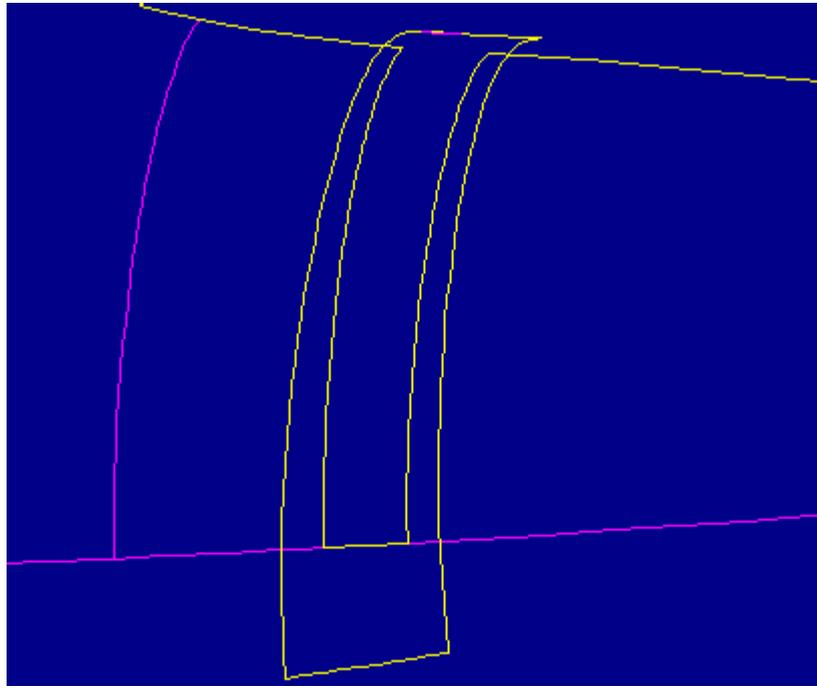

Figure 10
8. Figure 10 shows an untrimmed surface that is currently too large to join into the quilt.